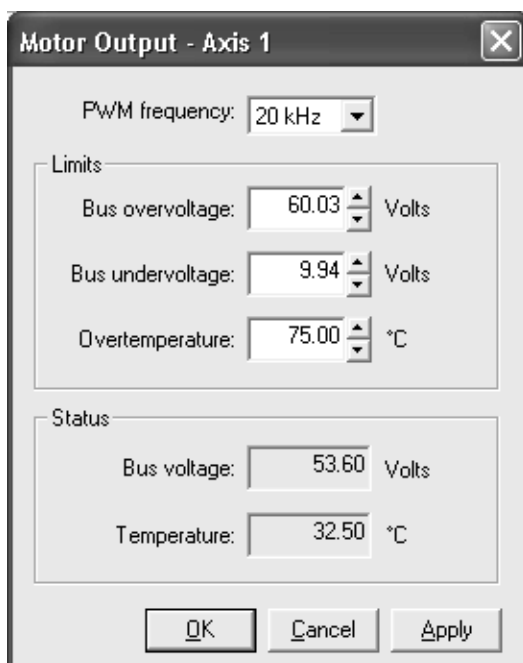

Figure 4-9:
- 1 Select the Hall-based Commutation mode. The Signal states field is displayed (Figure 4-9) and the remaining parameters are grayed out.